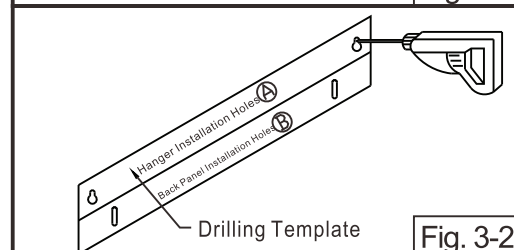

Fig. 3-2
- Rest the drilling templateⒶ against the wall and drill holes at the indicated positions (1 hole each at left and right), fix sleeve anchor to the drilled holes. (Fig. 3-2)